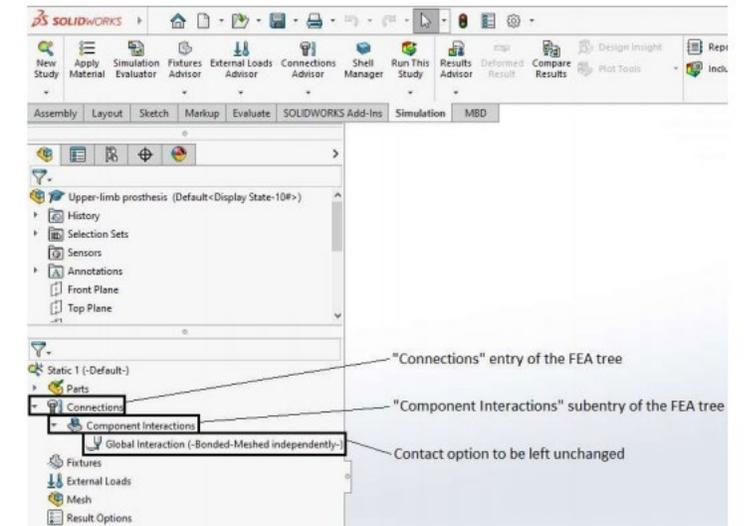

Figure 19: Contact option activated by default in the FEA tree (to be left unchanged)
g) Do not change the option “Global Interaction (-Bonded-Meshed Independently-)” activated by default under the “Connections” and “Component Interactions” entries of the FEA tree (Fig. 19). This option is consistent with the hypotheses formulated in §1.